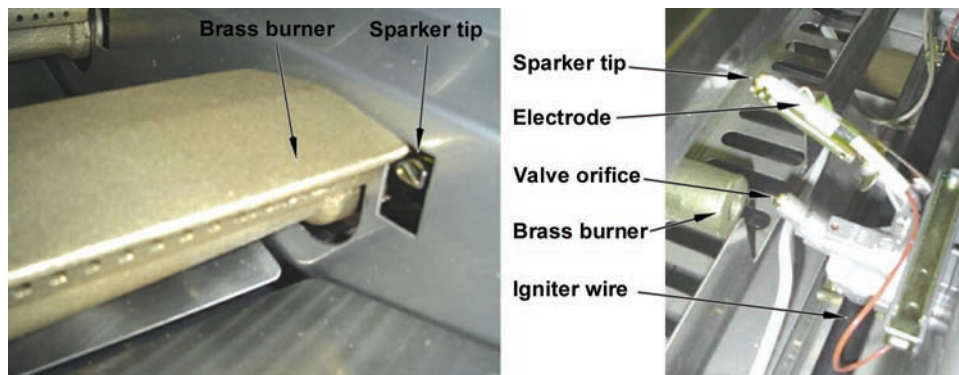

Figure 51
1. If the burner does not turn on, use the following procedure with Figure 51.